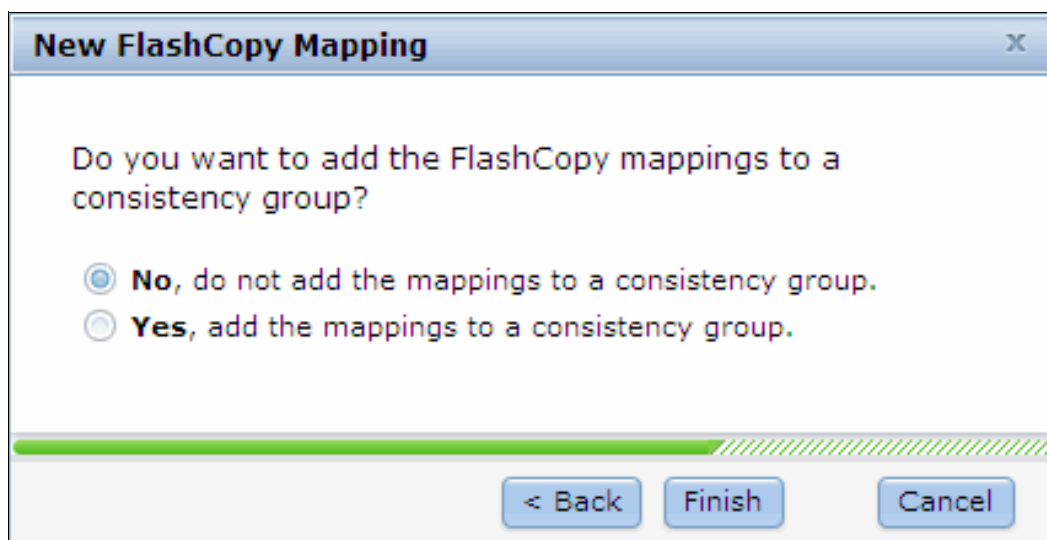

Figure 10-49 Add new mapping to consistency group
- In the next window, you are asked if the new mapping is to be part of a consistency group, as shown in Figure 10-49. In our example, the new mapping is not part of a consistency group, so we click **No** and then **Finish** to create the mapping.